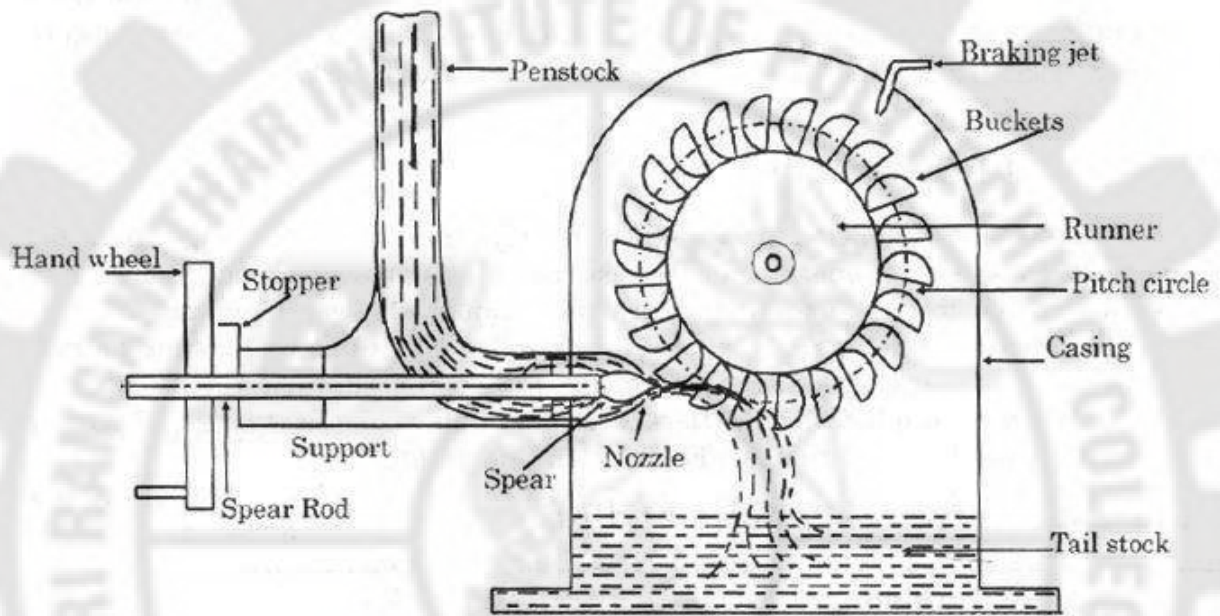

Fig. 3.6
- ❖ The pressure of water is atmosphere throughout It's passage through the turbine as shown in fig 3.6.